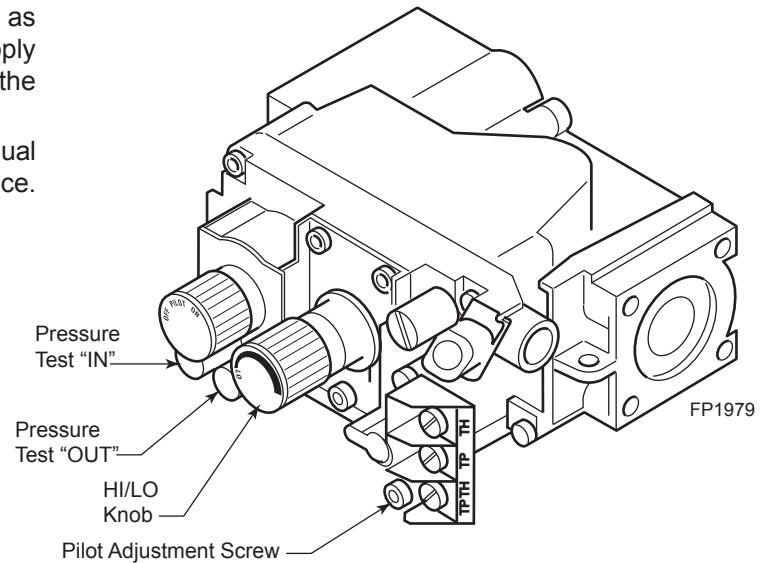

Figure 37 -
5. To check gas pressures at valve, turn captured screw counter clockwise 2 or 3 turns and then place tubing to pressure gauge over test point. Turn unit to high. *Figure 37.* After taking pressure reading, be sure and turn captured screw clockwise firmly to reseal. Do not over torque. Check test points for gas leaks.